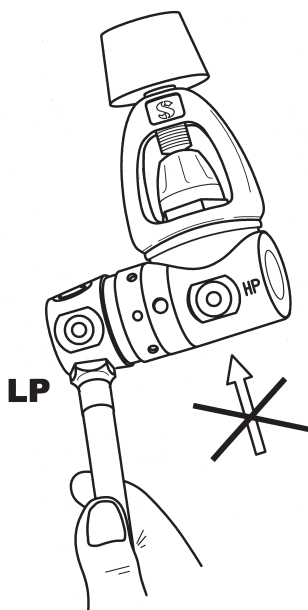

Fig. 1
Connect the low pressure (LP) hose of the Power Inflation Valve or A.I.R. 2 to an unused LP port of the first stage, **that must have the same thread (fig. 1).**